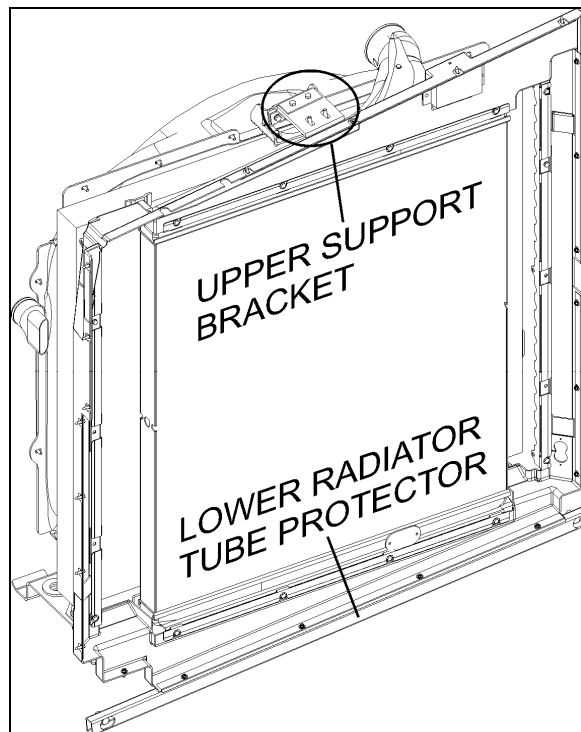

FIGURE 14: UPPER SUPPORT BRACKET & TUBE PROTECTOR
12. Remove the upper radiator assembly support bracket (Fig. 14).
13. Remove the lower radiator assembly tube protector from the lower section (Fig. 14).